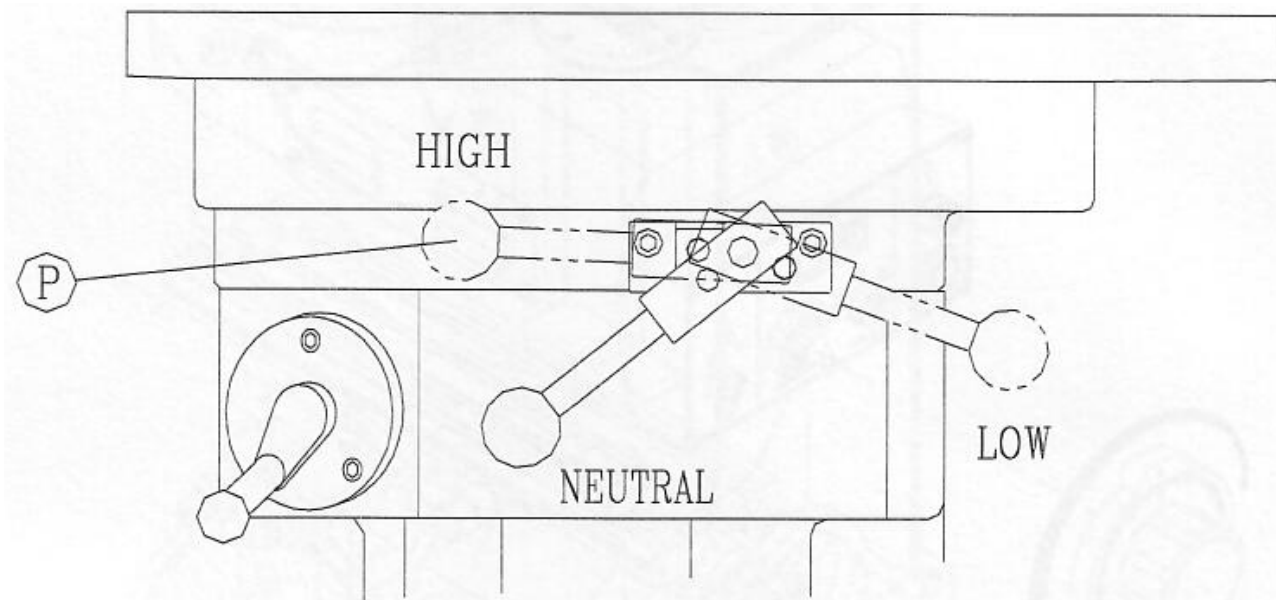

Figure 5-4: High/low speed handle positions
Select the speed range with the speed handle (P) (Figure 5-4):